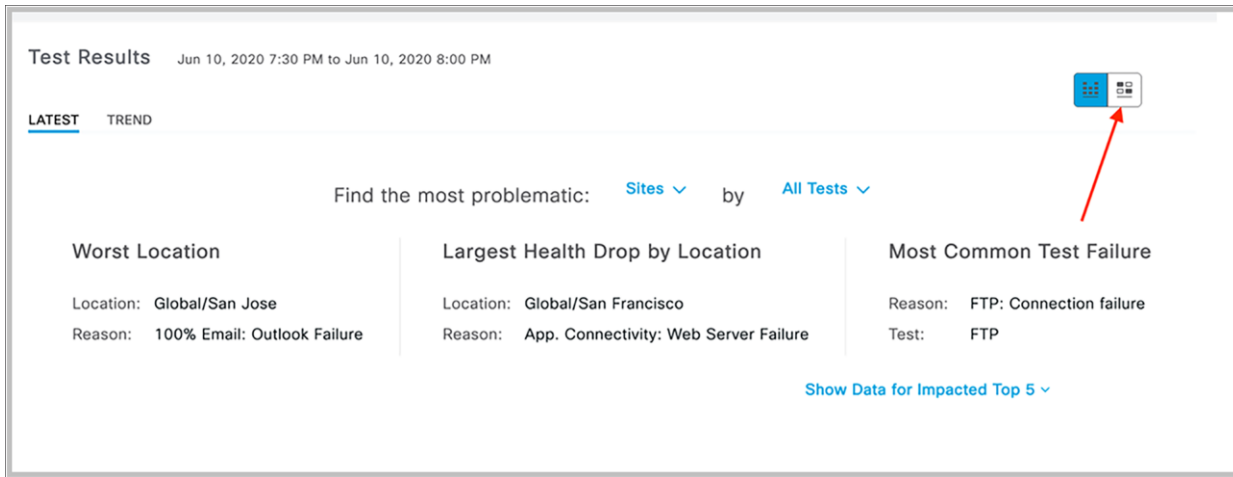

Figure 91.
- To replace the entire heatmap with a dedicated insights card view, click the rightmost button in the top right corner of the Test Results dashlet (**Figure 91**).